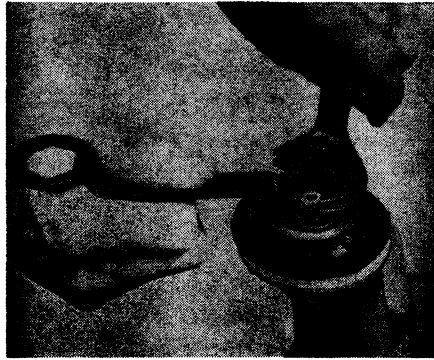

Fig. 12 Series B. Holding alignment washer with special wrench while tightening pull rod nut
9. Hold the hexagon alignment washer with the special wrench shown in Fig. 12 while tightening the pull rod nut. The alignment washer must be held stationary to avoid diaphragm distortion.